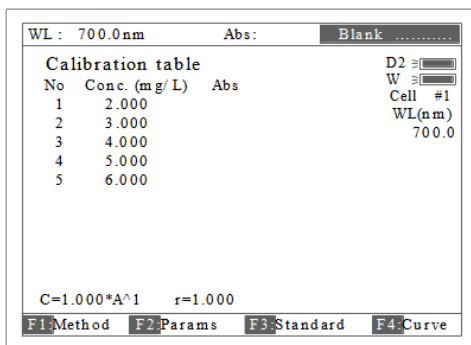

Fig 32
3.3.1 Enter standard concentrations of samples by pressing the Numeric keypad followed by **【ENTER】**. Press **【^】** or **【v】** to modify the inputted data (Fig31). Press **【ESC/STOP】** to finish inputting and to exit (Fig 32).
3.3.2 Push the blank cuvette into the Reference Light Path and Main Light Path, press **【0Abs/%100T】**, the instrument will step to the wavelength and blank. See Fig 32.